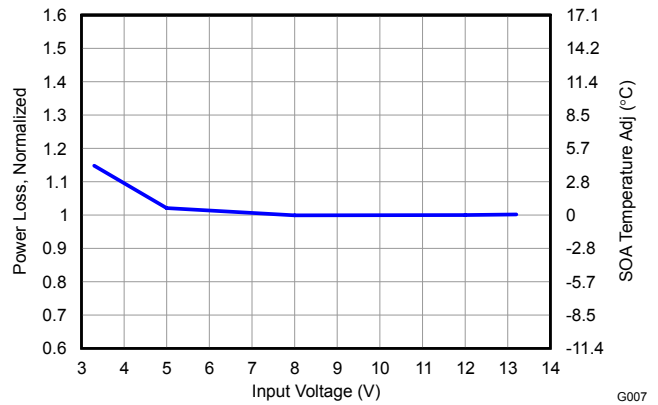

Figure 13. Normalized Power Loss vs Input Voltage
- Normalized Power Loss for input voltage \approx 1.07 (Figure 13)
- SOA adjustment for input voltage \approx 0.1 $^{\circ}$ C (Figure 13)